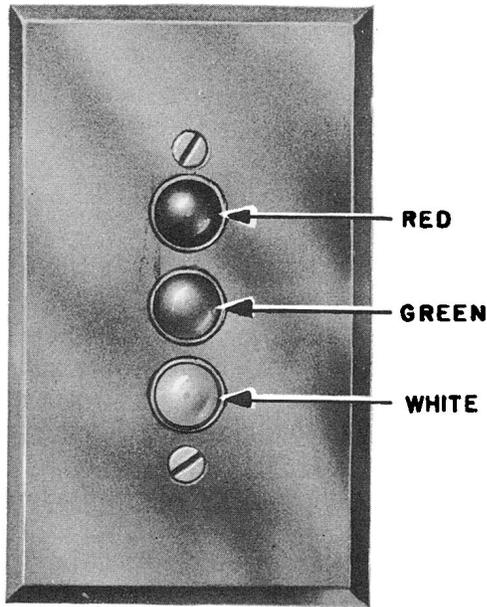

Fig. 3 - 16-Type Indicator
2.04 The 16-type indicator (Fig. 3) is a flush-type plate for mounting three lamps. It can be mounted in a standard-type outlet box (provided by customer) or be flush mounted in the same manner used for station jacks.